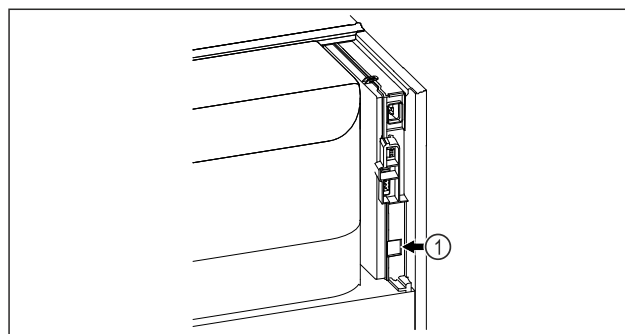

Fig. 125
- SmartModule Fig. 125 (1) is in use.